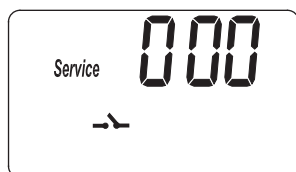
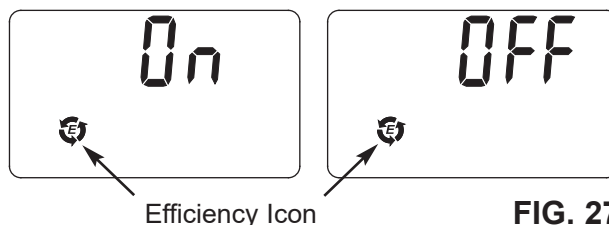

FIG. 26
FIG. 27
1. Press and hold the PROGRAM button until the screen in Figure 26 is displayed. Once in this display, press the PROGRAM button once and one of the two displays in Figure 27 is shown.